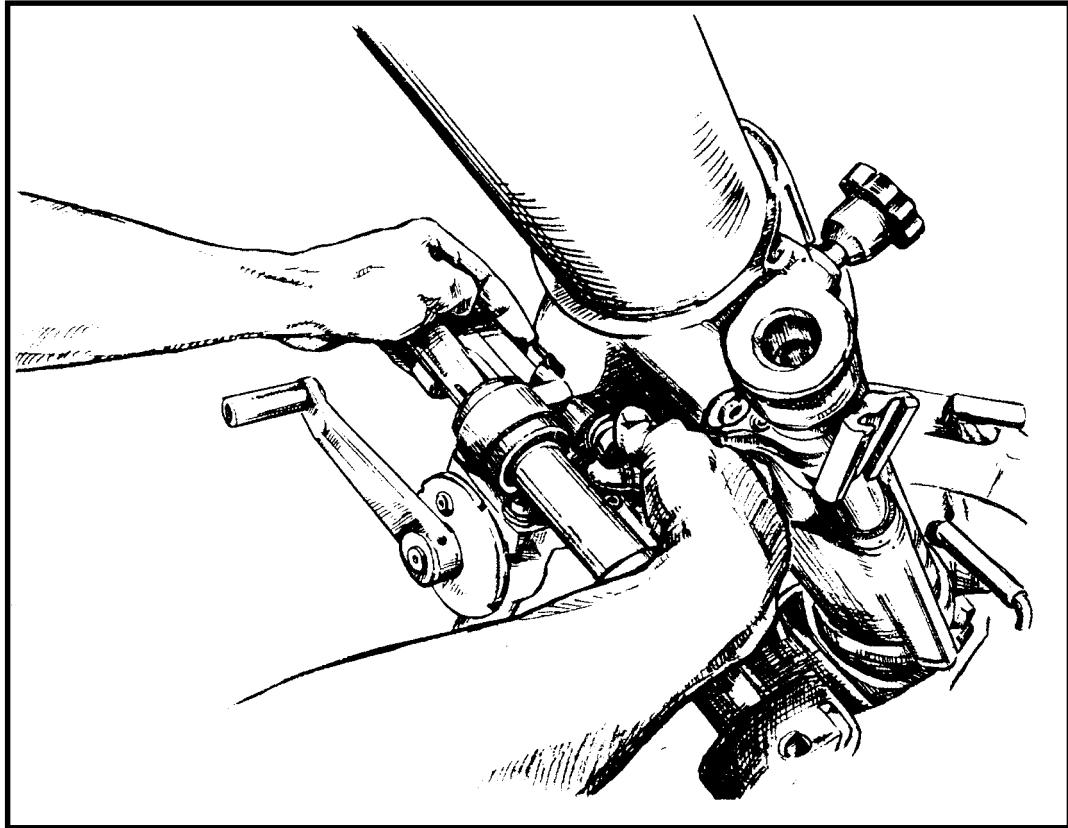

Figure 6-11. Barrel locked to the standard assembly.
g. The ammunition bearer withdraws the mortar locking pin assembly. The assistant gunner lowers the barrel until it fits into position on the locking lug of the slide assembly. He inserts the mortar locking pin and turns it 180 degrees in either direction to lock the barrel to the standard assembly (Figure 6-11). He removes the muzzle cover.